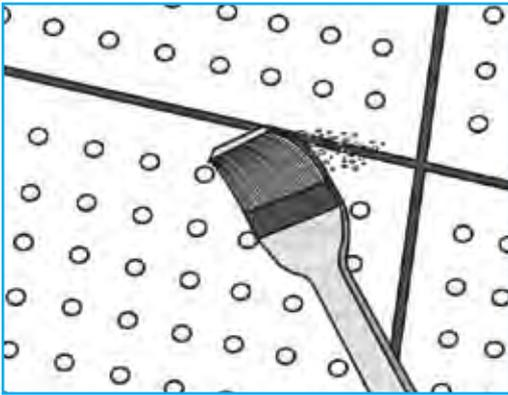

FIGURE 8 Cleaning of Joints
- Clean dust from joints after fixing the boards. Use a wet brush. *[Figure 8]*